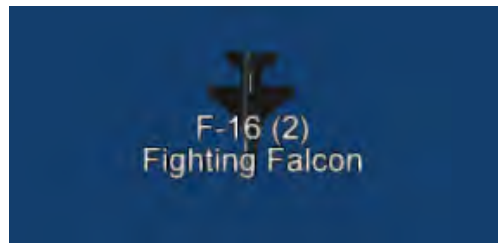

Figure 5.89: Custom Label
14. Zoom-in to the **F-16(2)** platform, the display should be similar to Figure 5.89.